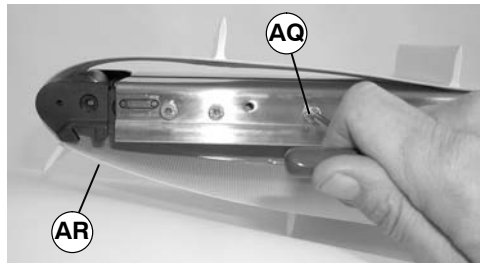

Figure 23
5. Remove conveyor belt (AR of Figure 23).
6. Remove conveyor belt (AR of Figure 23).
2. Slide belt (AR of Figure 23) onto the conveyor frame assembly.
2. Slide belt (AR of Figure 23) onto conveyor frame assembly.